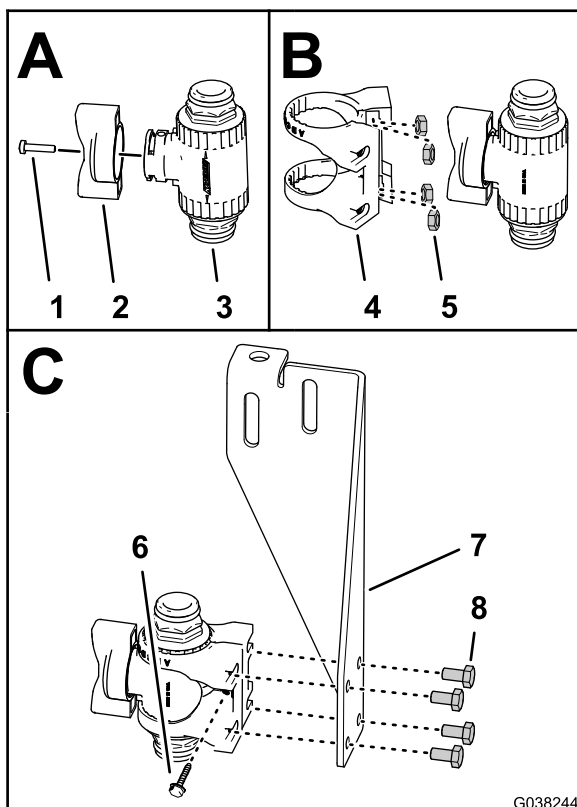

Figure 58
1. Assemble the handle to the agitation throttle valve (Figure 58) with the screw (6-32 x 5/8 inch).
- If not assembled, insert the 4 stainless steel nuts into the slots in the nylon throttle-valve mount for the agitation throttle valve (Figure 58).
- Assemble the agitation throttle valve into the throttle-valve mount as shown in (Figure 58)
- Secure the throttle-valve mount to the agitation throttle valve with the screw (6-32 x 5/8 inch) as shown in (Figure 58).
- Assemble the throttle valve and mount to the agitation-valve bracket (Figure 58) with the 4 bolt (6 x 12 mm).